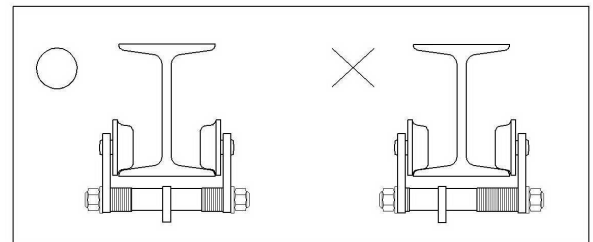

FIGURE 4
- ③ Make sure the Hook Receiving right in the center of the two side plate. (FIGURE 4)
- ④ Completely tighten the Nylon Nut.